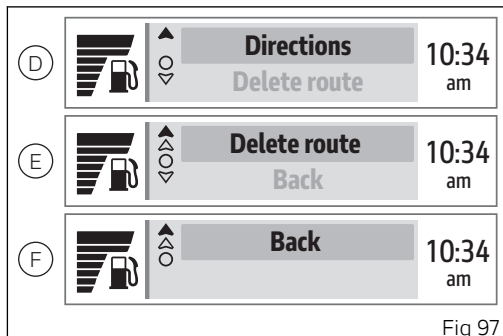

Fig 97
- Select the "Directions" item (D, Fig 97) and press ENTER (3).
- Select the "Delete route" item (E, Fig 97) and press ENTER (3).